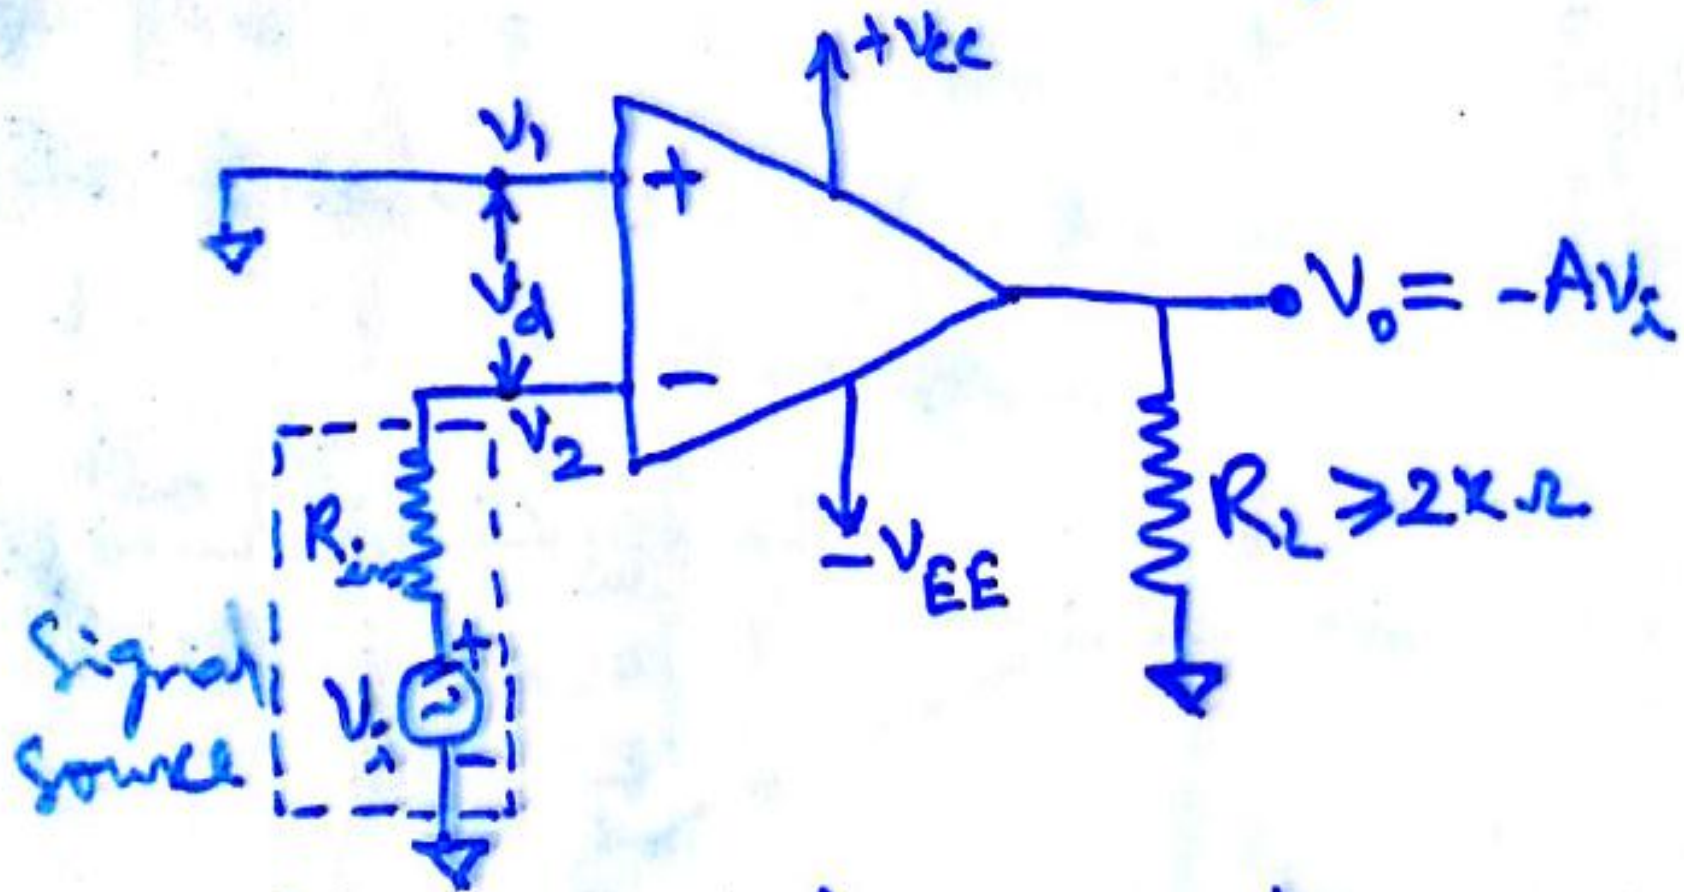

Fig 1. open loop inverting amplifier.
- The circuit diagram for the open loop inverting amplifier is shown in figure 1.